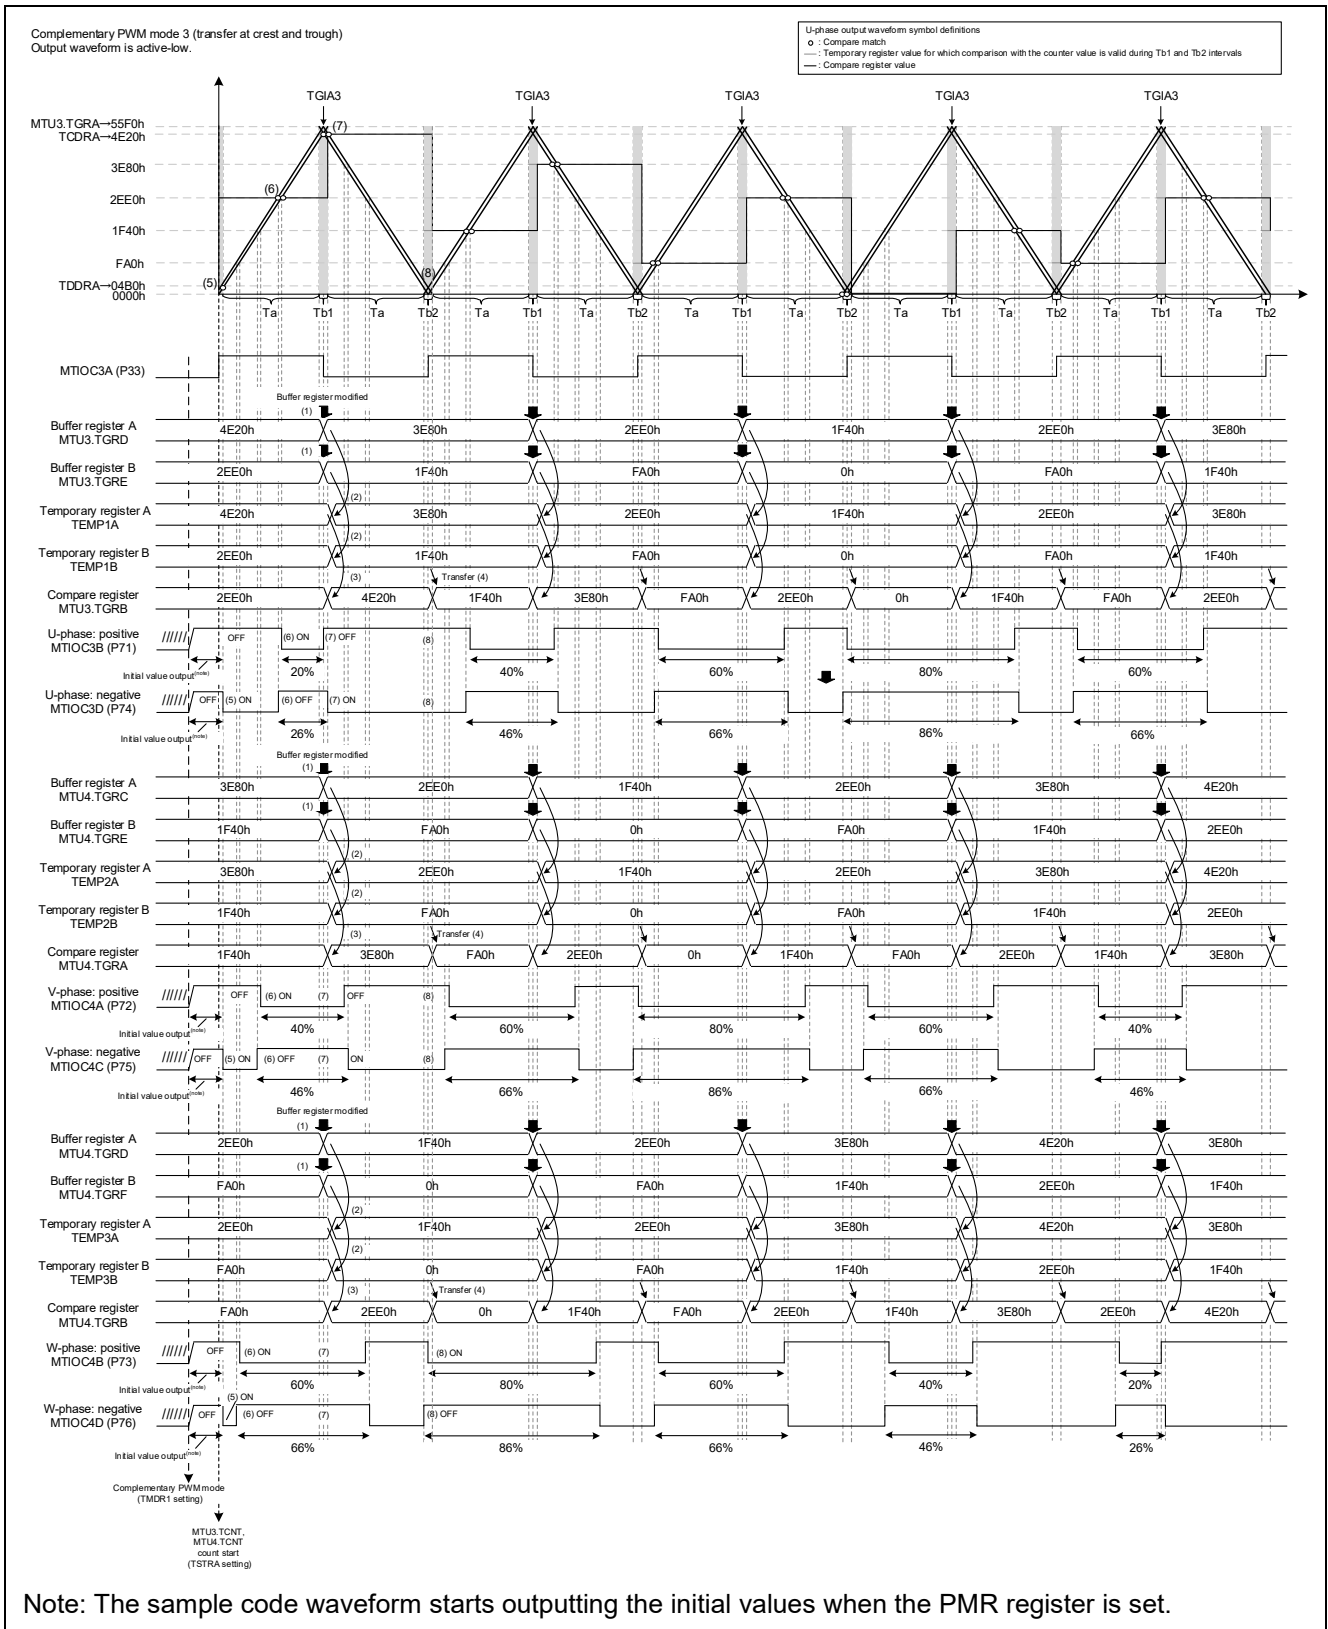

Figure 3.54 Sample Code Operations
— Refer to Figure 3.54 for details on initial value of buffer register
— Refer to Figure 3.54 for details on the timing for duty cycle changes
The sample code operations are shown in Figure 3.54. The settings of the duty cycle are changed with each period by modifying the values of buffer register A (MTU3.TGRD, MTU4.TGRC and MTU4.TGRD) and buffer register B (MTU3.TGRE, MTU4.TGRE and MTU4.TGRF) at the compare match interrupt (TGIA3) of the MTU3.TRGA register, which is set to the upper limit value of MTU3.TCNT ((1) in Figure 3.54).
Writing MTU4.TGRD at the end of the buffer register modification enables data transfer from buffer registers A and B to temporary registers A and B. When MTU4.TGRD is written in the Ta interval, the data written to the buffer register is immediately transferred to the temporary register, but in this sample code, MTU4.TGRD is written in the Tb1 interval, so it is transferred to the temporary register after the Tb1 interval ends ((2) in Figure 3.54).
Since this sample code uses complementary PWM mode 3 for crest and trough transfers, the compare register updates the data by transferring from temporary register A at the end of the Tb1 interval, ((3) in Figure 3.54), and from temporary register B at the end of the Tb2 interval ((4) in Figure 3.54).
Initial output is OFF for both positive-phase output and negative-phase output according to the settings of TOCR2A bits OLS1P, OLS1N, OLS2P, OLS2N, OLS3P, and OLS3N. After setting the complementary PWM mode in MTU3.TMDR1, output continues until MTU4.TCNT is greater than the value of the TDDRA register ((5) in Figure 3.54).
1. A compare match between the compare register and the counter register occurs in the Ta interval, the negative-phase output turns OFF, and then the positive-phase output turns ON. ((6) in Figure 3.54).
2. The compare register and temporary register A are enabled in the Tb1 interval. A compare match occurs in the U-phase, the positive-phase output turns OFF, and then the negative-phase output turns ON. As a compare match does not occur in the V-phase or W-phase, the waveform does not change. ((7) in Figure 3.54).
3. The compare register and temporary register B are enabled in period Tb2. As a compare match does not occur between the counter register and the compare register in the U-phase and V-phase, the waveform does not change. A compare match occurs in the W-phase, the negative-phase output turns OFF and the positive-phase output turns ON. ((8) in Figure 3.54).